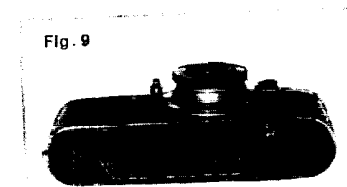

Fig. 9
3. Pull the take-up spool (Fig. 9) out of the camera.
Dotted line (Fig. 9) shows the position of the film when properly loaded in the camera.